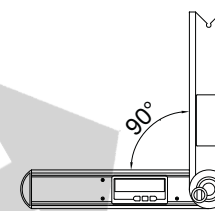
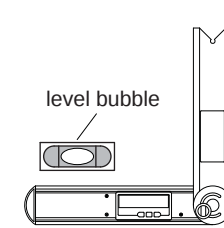

Fig.5
Fig.6
b. Check vertical: Set the angle 90° (Fig.5), check the vertical follow the Fig.6.